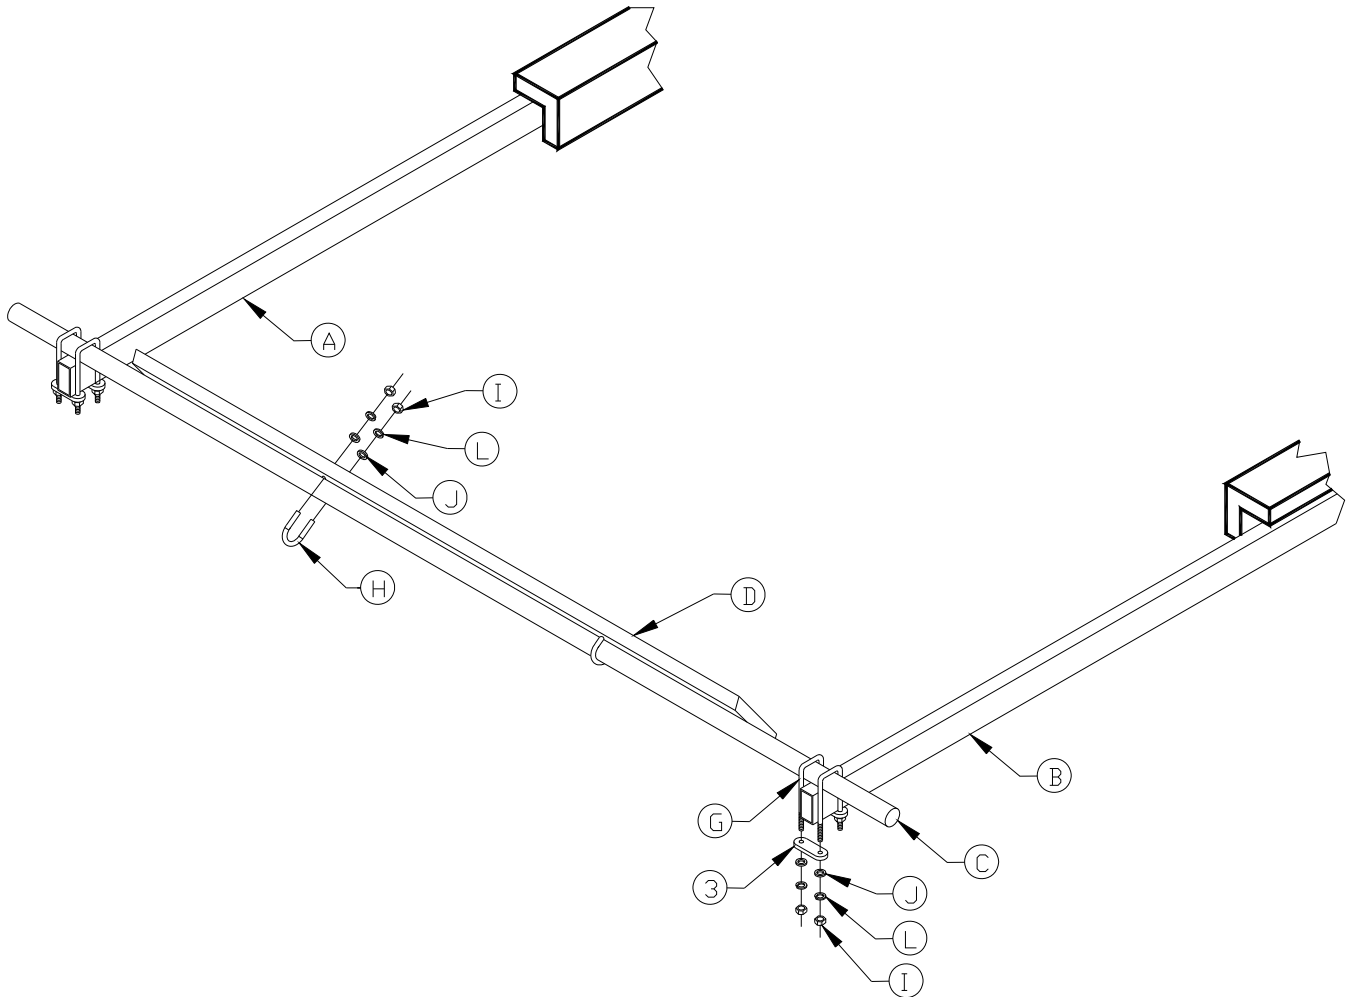

Figure 2-4.
1. (Refer to Figure 2-4) Position the Bow Stop Cross Tube (C) between both Bow Stop Arms, near the end furthest from the lift. Place the square bend u-bolts (G), over the top of the Cross Tube on both sides of the Bow Stop Tube Arm. Place a 2" two hole plate (3), on each u-bolt. Then loosely attach a 3/8" flat washer (J), 3/8" split lock washer (L), and a 3/8" hex nut (I) to each side of both u-bolts. (**DO NOT TIGHTEN AT THIS TIME**). Repeat for the other end of Cross Tube.
2. Position the Bow Stop Carpeted Bumper (D), centered and on top of the Bow Stop Cross Tube with the carpets seam facing the cross tube. Place a 3/8 u-bolt (H) around the cross tube, then through the bumper. Install a 3/8" flat washer (J), 3/8" split lock washer (L), and a 3/8" hex nut (I), to both ends of the u-bolt. (**DO NOT TIGHTEN AT THIS TIME**). Repeat for other end of bumper and tighten all Bow Stop Arm, Cross Tube, and, Bumper fasteners.